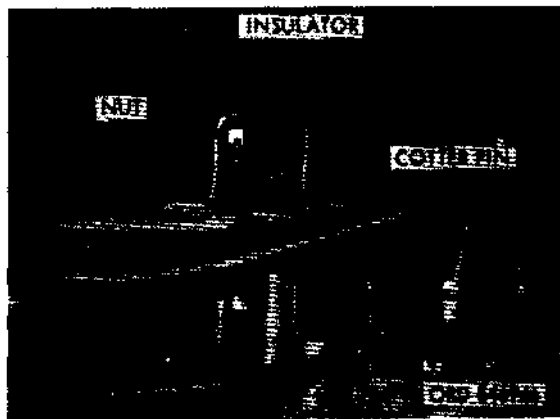

Figure 182. Cab front mounts.
- (11) Remove cotter pin and nut securing cab front to frame (fig. 182).
- (12) Remove cab mounting bolts, springs, insulators, washers and safety nuts (figs. 182 and 183).